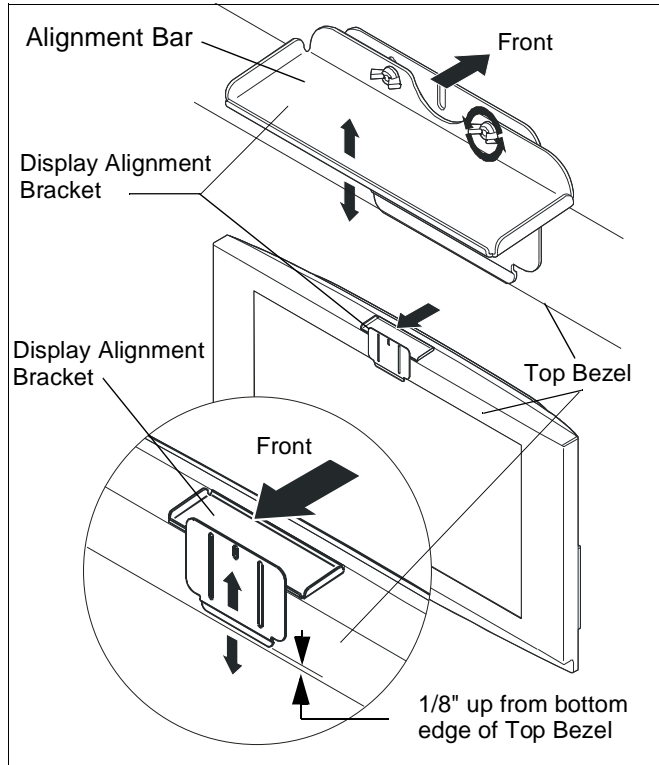

**Figure 2**
2. Remove alignment bracket mounting nut and set aside for reuse. (See Figure 2) and (See Figure 3)
3. Tip top of display alignment bracket outward until free of stud in frame mounting bracket. (See Figure 2) and (See Figure 3)
4. Slide lower lip of display alignment bracket up and out of bottom tray of frame mounting bracket. (See Figure 2) and (See Figure 3)
8. Slide lower lip of display alignment bracket into bottom tray of frame mounting bracket. (See Figure 2) and (See Figure 3)
9. Tip top of display alignment bracket towards frame until stud (in bracket mounted to frame) is through slot in display alignment bracket. (See Figure 2) and (See Figure 3)